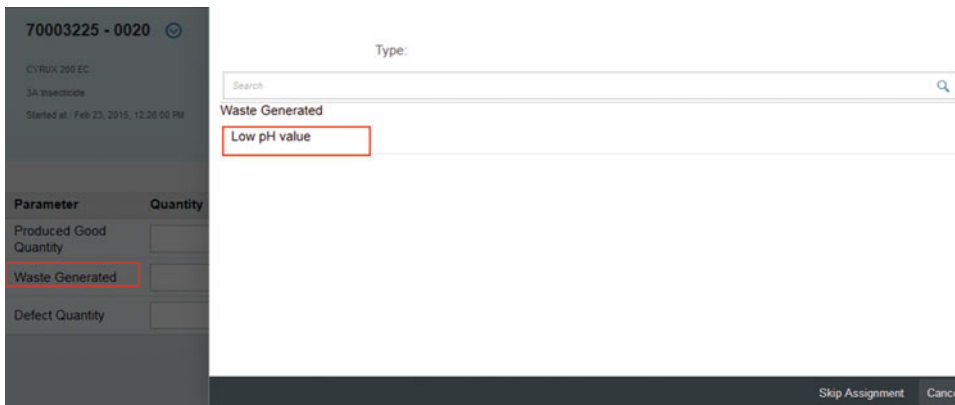

Figure 5-23. OEE dashboard: assign reason code
- Now, in the OEE dashboard, when you report the waste DCE and click on the “Assign” link to assign the reason code, you will find only the above-configured reason code available for assignment, as shown in Figure 5-23.